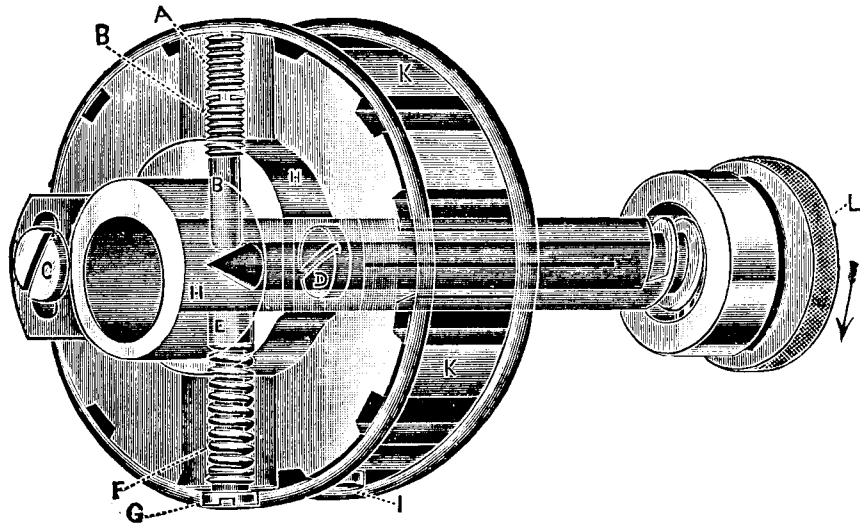

Fig. 18
The figures on the feed regulating spindle head, showing through the notch in the balance wheel, indicate the number of stitches to the inch which should be made. If more or less stitches are made, adjust as follows: Remove screw (A, see Fig. 18), set the indicator at 8 and the feed dog at its highest point, a full tooth showing above the throat plate, then adjust screw
To Set the Feed Regulator so that a Stitch Longer than the One Desired Cannot be Made. Turn spindle head (L, see Fig. 18) in the direction indicated by the arrow and make the longest stitch possible; remove check screw (A) and turn screw (B) down until the machine makes the desired number of stitches to the inch, then turn screw (A) down tightly on screw (B) as a check. The stitch may then be changed by turning spindle head (L) for a shorter stitch, but operators cannot make longer stitches than the limit that screw (B) is set to produce.
Transparent view showing the needle vibrator regulating spindle head in front of Machines 107w1 and 107w5. The screws (A) and (B) are shown under the shaft (not lettered, but referred to as in Fig. 18).
Remove screws (B and I, see Fig. 18) and compression screw (G); loosen the set screw in the belt pulley, also loosen the screw and remove the position screw from the feed lifting eccentric and from the needle bar crank; loosen the set screws in the needle bar frame driving gear pinion (on the arm shaft) and draw the shaft out from the balance wheel end of the machine.